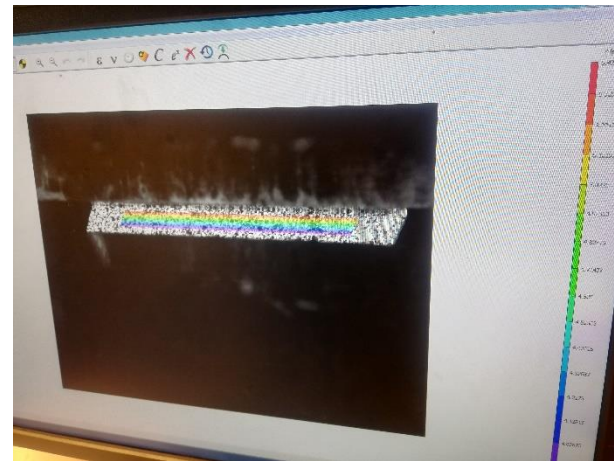

Fig 5: VIC 3D
- ❑ “VIC 3D” installed in computer 2 for the image acquisition (Fig 5)